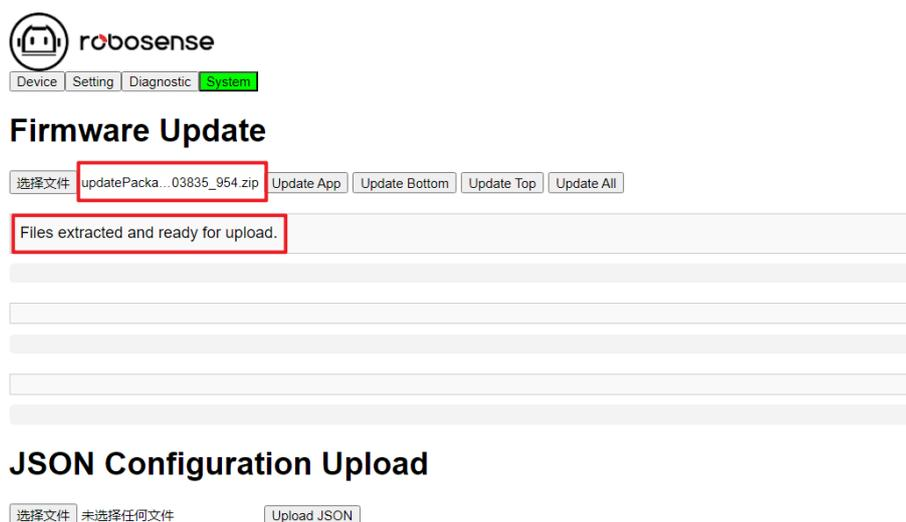

Figure 21 The Page is Displayed after the Upgrade File is Selected
- 3) At this time, the file name of the firmware to be upgraded will be displayed on the web interface. Select the corresponding upgrade button to upgrade the corresponding firmware, as shown in Figure 21 .